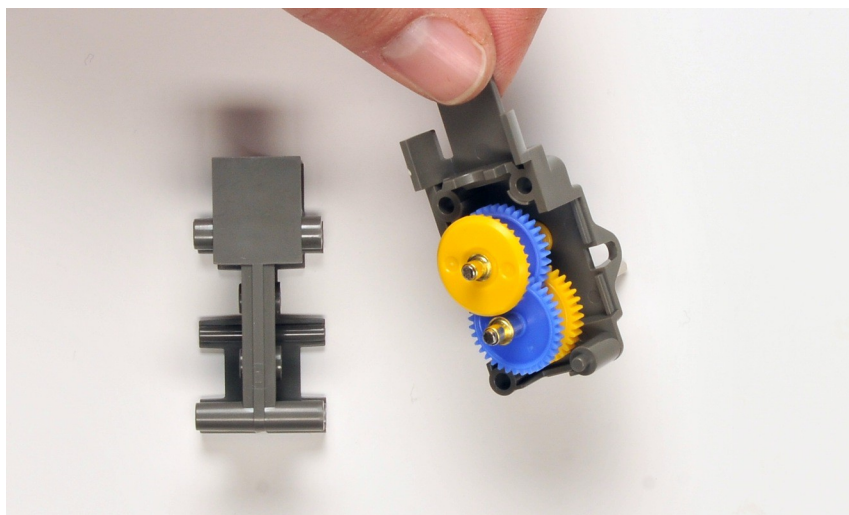

Figure 1.20
17. Holding the gear assembly so the shafts are vertical, attach the center section of the gearbox housing to the gear assembly, as shown in figures 1.20 and 1.21.